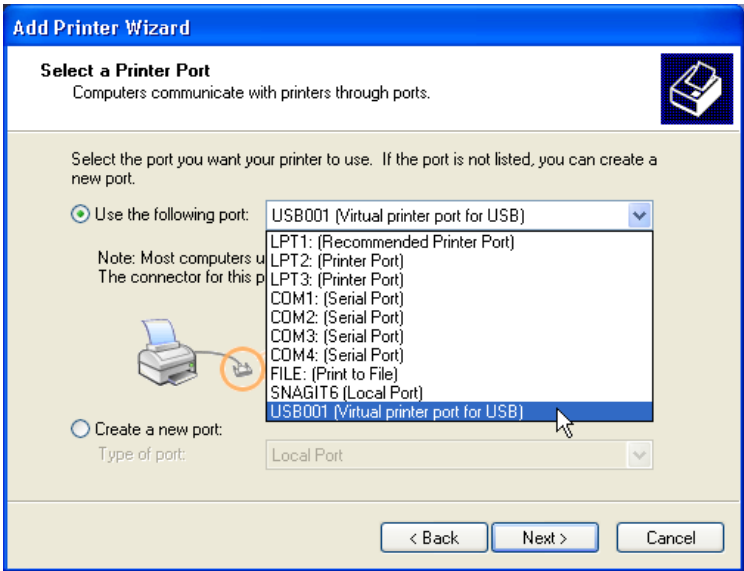

Figure 3-43 Select Printer Port
7.) Select the corresponding Printer Port (e.g., Figure 3-43 = USB001) and click NEXT.